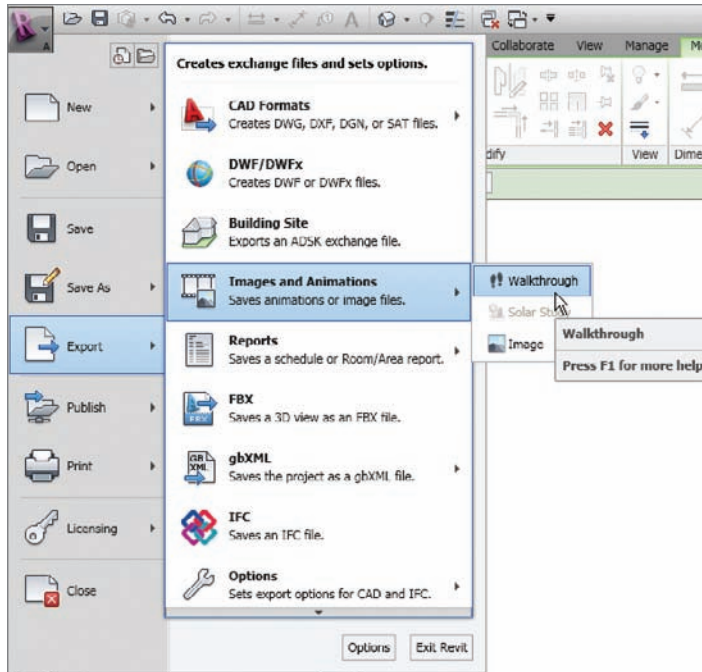

FIGURE 19.22 Choosing to export the walkthrough
Exporting an animation is a great, but slightly hidden, feature. The Export function is not located on the Ribbon—you will find it in the Application menu, as shown in Figure 19.22. By exporting a walkthrough, you are creating an animated vector image (AVI) that will translate the native Revit walkthrough. It is quick and almost completely painless!
2. Choose **Export > Images And Animations > Walkthrough**, as shown in Figure 19.22.